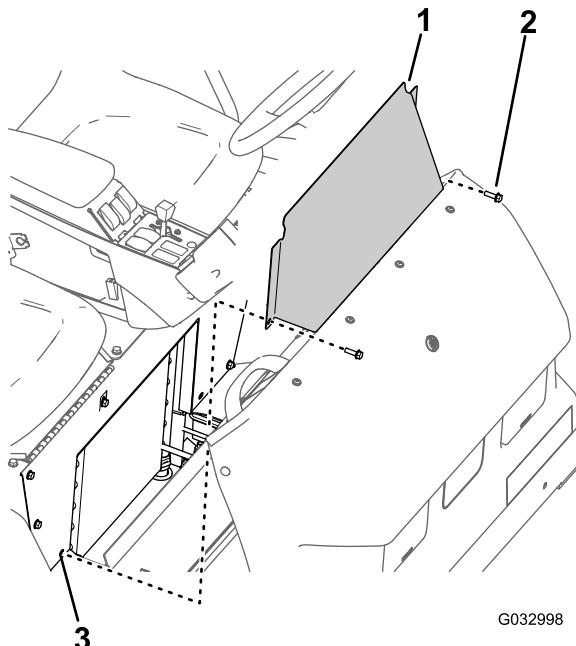

Figure 60
1. Remove the 2 flanged-head bolts that secure the seat-base-access panel to the seat base (Figure 60).
2. Remove the seat-base-access panel from the machine (Figure 60).
1. Align the holes in the seat-base-access panel with the holes in the seat base (Figure 60).
2. Assemble the seat-base-access panel to the seat base with the 2 flanged-head bolts (Figure 60) that you removed in step 1 of Removing the Seat-Base-Access Panel \(page 51\).